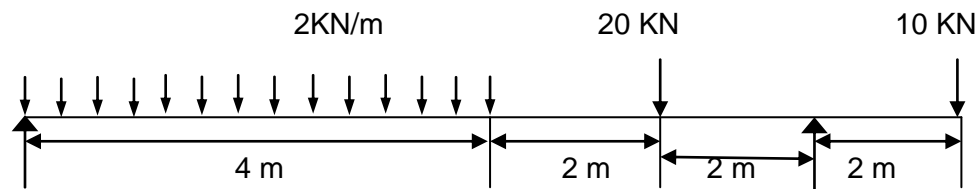

Fig. 3
13. (a) Draw the SF and BM diagram for the beam shown in Fig.3. Find the maximum values and their positions. (16)